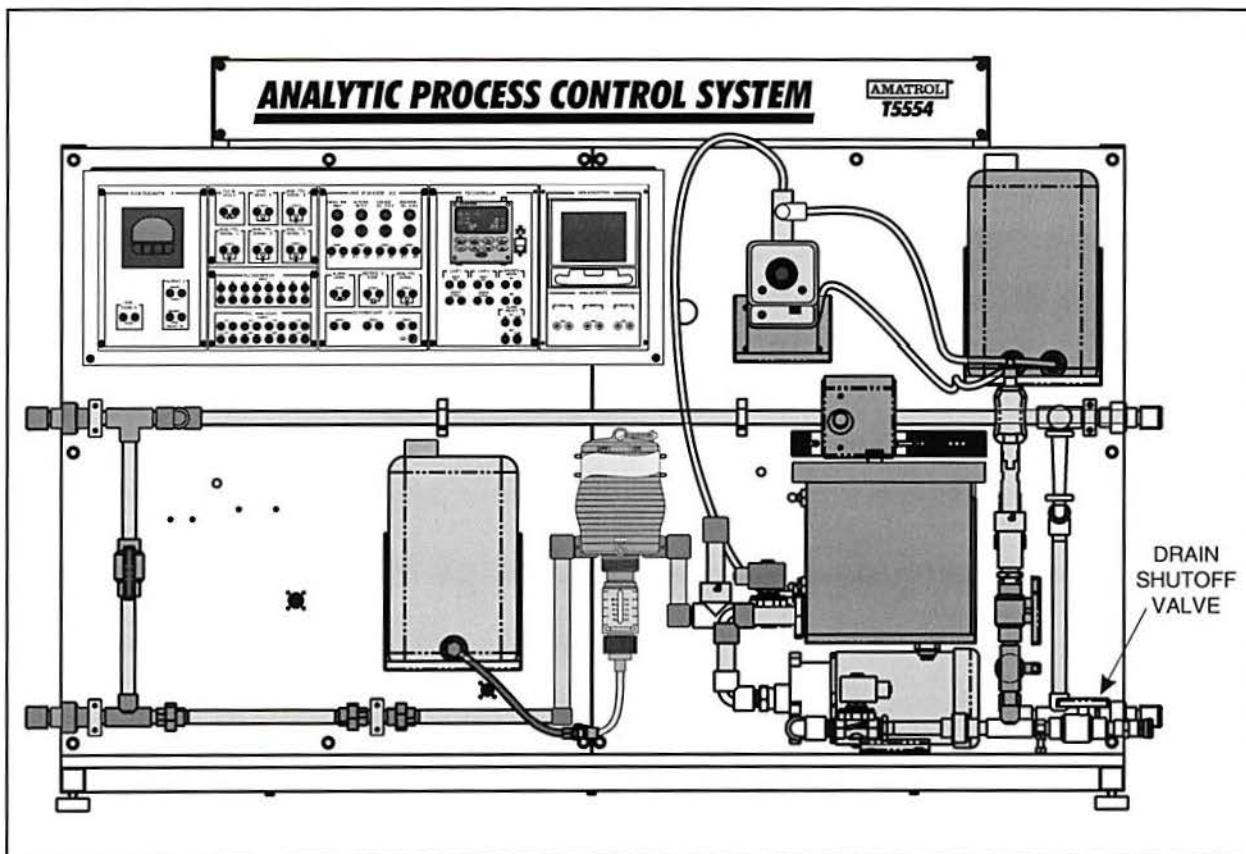

Figure 46. Drain Shutoff Valve
- A. If the tank needs to be drained, close the drain shutoff valve shown in figure 46. Observe the labels on the handle of the valve to determine the shutoff position.